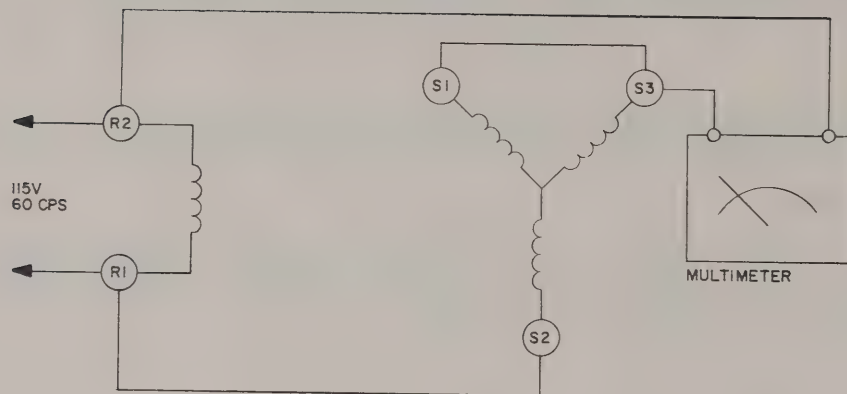

Figure 3-1. Test Transmitter Zeroing Hookup
- a. Connect the Test Transmitter and the multimeter as shown in Figure 3-1.